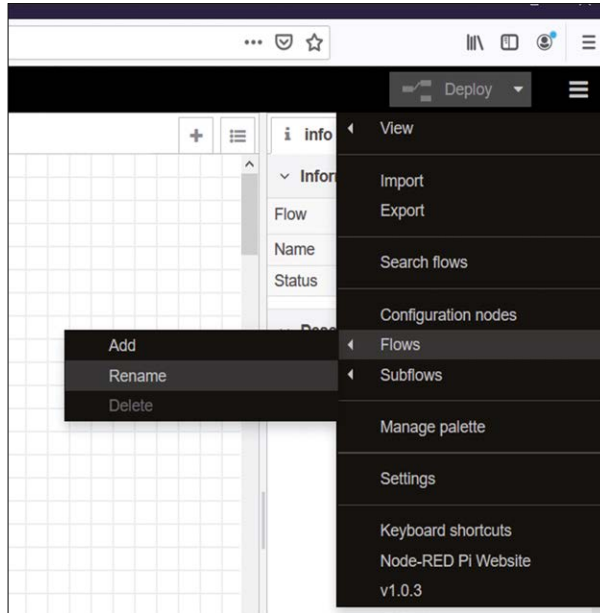

Figure 4.15 Renaming a flow
- Select **Flows -> Rename** as shown in Figure 4.15